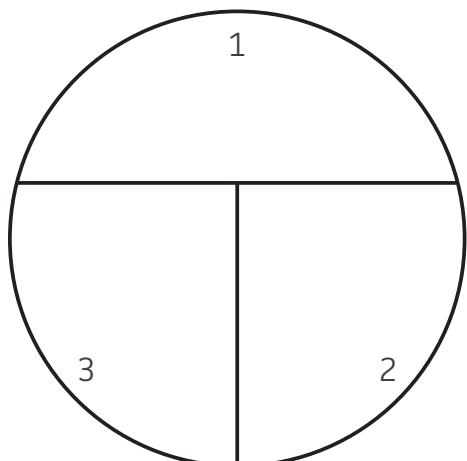

Figure 4: Streak plate set-up
- 1 Place a petri dish agar-side-up onto the bench top. Using a permanent marker, draw a “T” on your plate to separate your plate into 3 sections. Label each section (See: FIGURE 4).